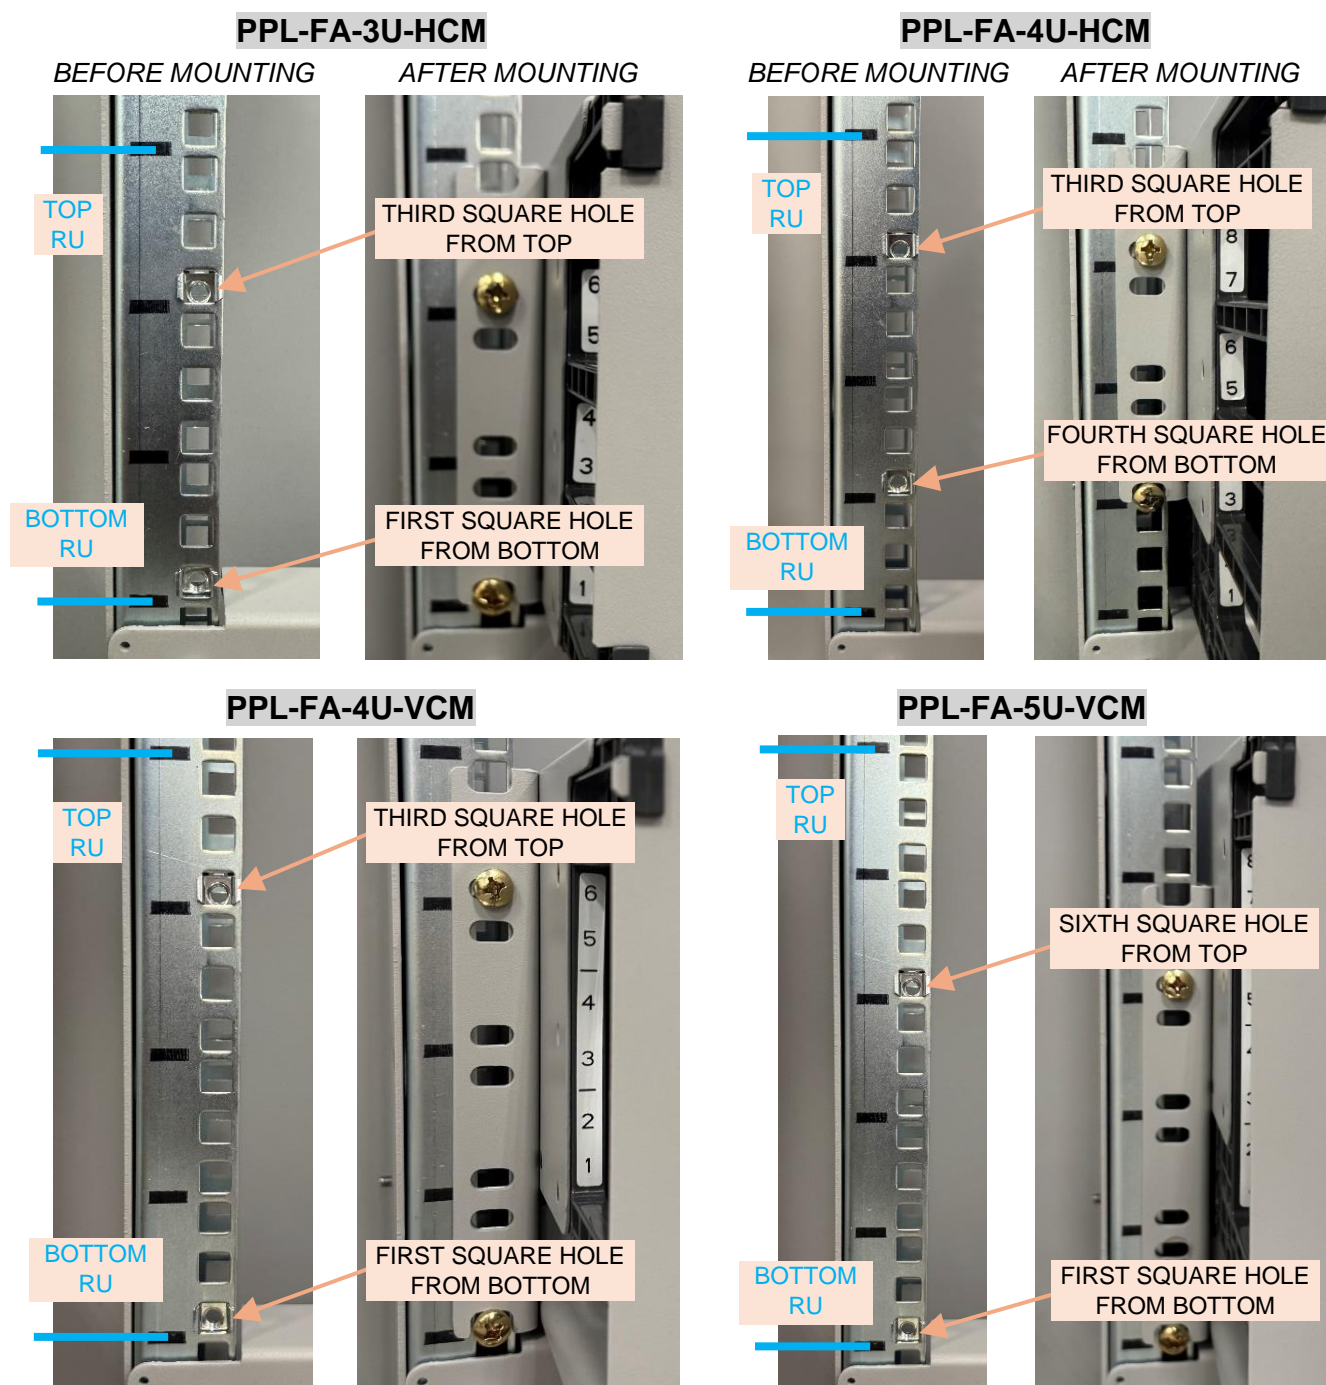

Figure 19. Cage Nut Locations Per Panel Type and Mounting RUs
- Determine mounting location on frame (i.e. RUs panel will occupy). Panel top will align with topmost RU marking. Brackets may not span all RUs (see Figure 19).
NOTE: Refer to Figure 19 for guidance on cage nut locations based on panel used.